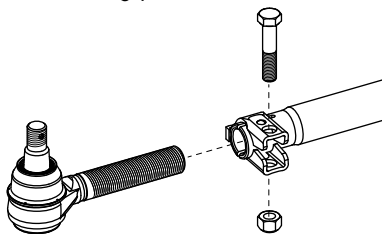

Figure 11: Tie rod end disassembly
3. **Loosen** tie rod end locking clamp (Figure 11). It should not be necessary to remove tie rod end clamp hardware.